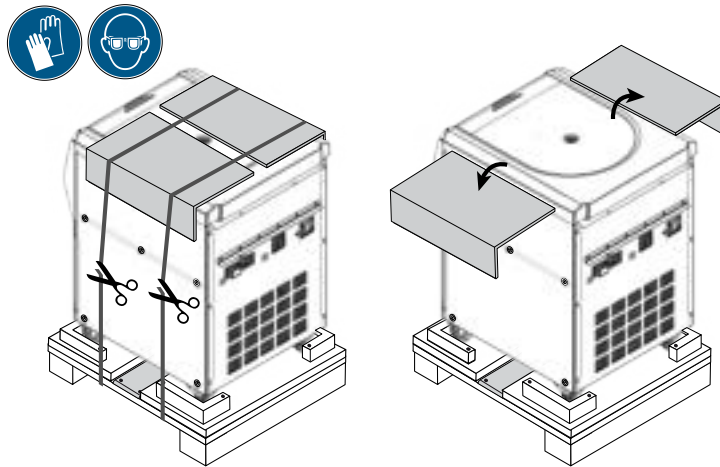

Figure 1-5: Removing the Inner Strapping and Cardboard Protectors
5. Using a pair of scissors, cut and remove the second set of straps securing the centrifuge to the pallet, as shown on the left side in Figure 1-5.
6. Remove the two cardboard protectors from the top of the centrifuge, as shown on the right side in Figure 1-5.